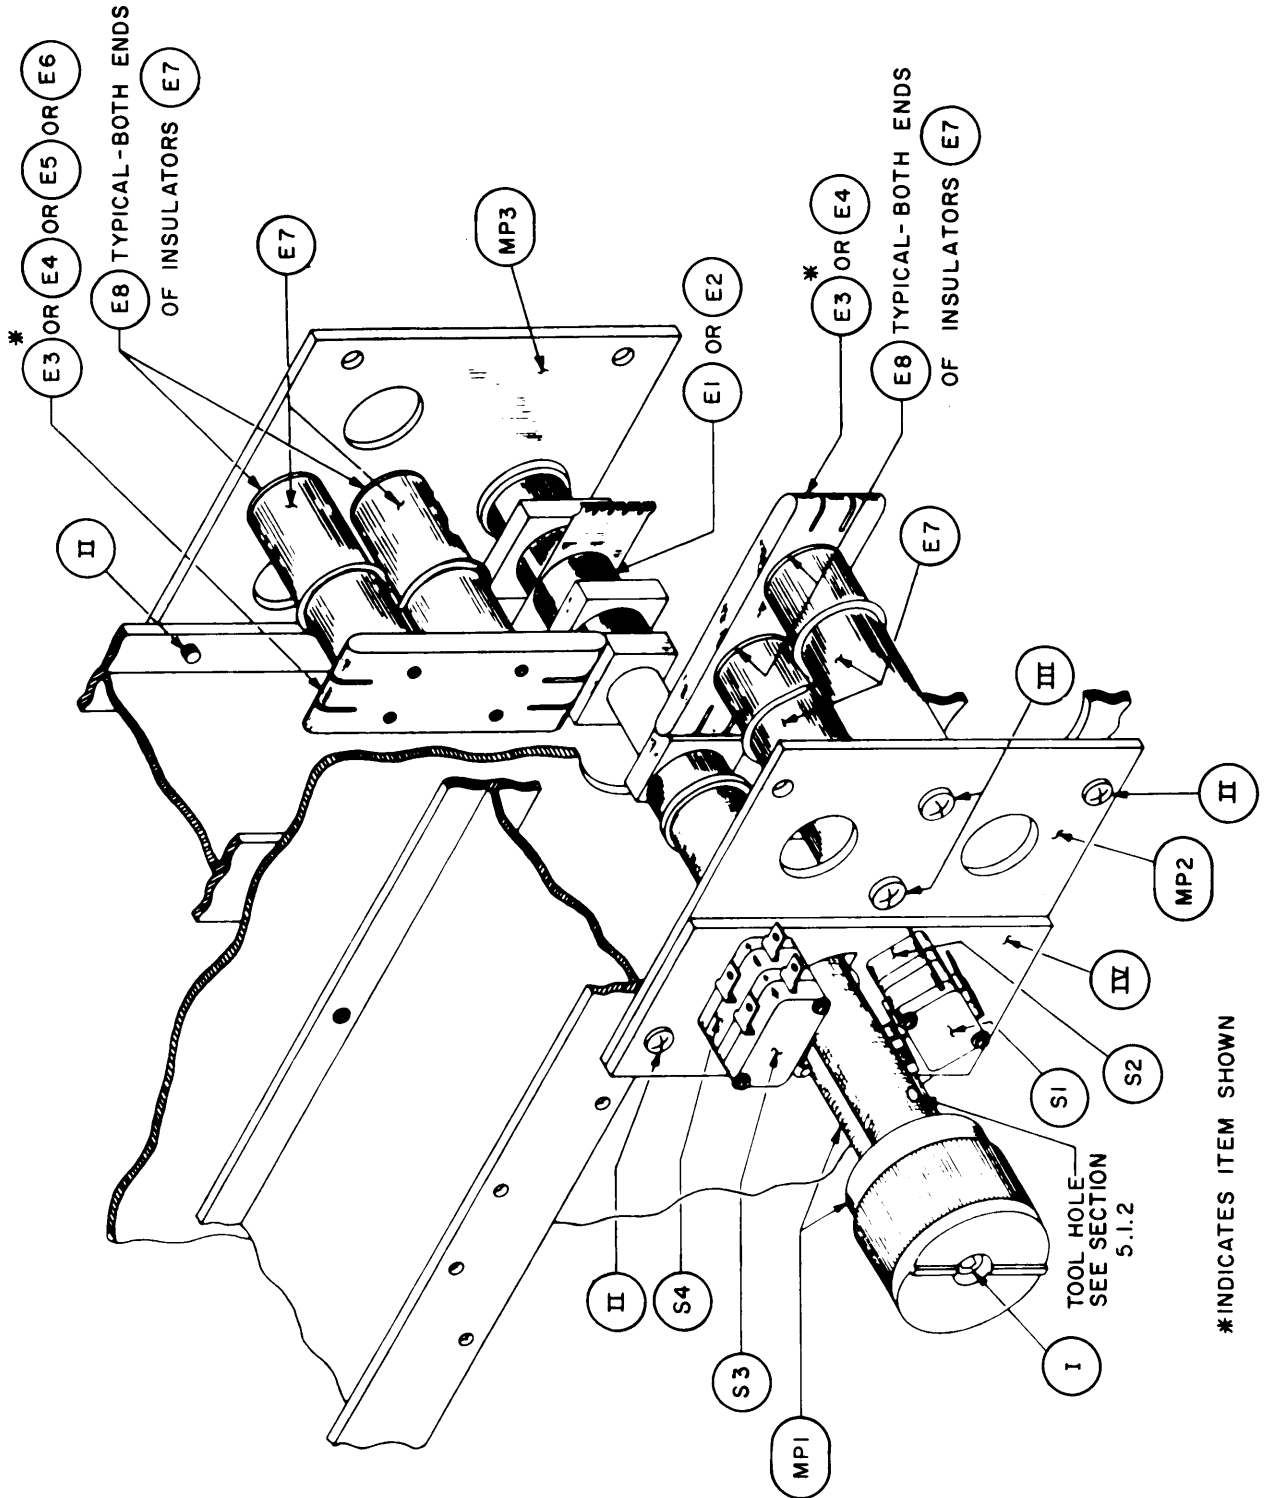

Figure 5-1. Cross-Point Components
5.1.2 To remove a ram, first remove the knob by rotating the knob until one of the holes in the knob's sleeve (See Figure 5-1) aligns with the hole in the ram shaft. Insert a pin, such as a heavy nail or small drill shank, through the aligned holes and at the same time place an Allen wrench in the cap screw in the center of the knob. Apply equal and opposite torque to the pin and to the Allen wrench to loosen the cap screw. Remove the cap screw and withdraw the knob and sleeve assembly. Unlock and place in their middle or disengaged position, the four rams immediately adjacent to the ram being removed. If the ram is not securely held with a pin while loosening or tightening the cap screw, torque may be applied to the ram components with resultant damage to the ram assembly.
5.1.5 To replace a strip line contact, remove the mounting screws, III, from the insulators, E7. The insulators may then be unscrewed from the strip line contact, E3, E4, E5, or E6. Install the new strip line contact on the mounting plate with the hardware as shown in Figure 5-1 making sure the Teflon Insulator Washers, E8, are present at each end of the stand-off insulators.
6.1.3 The peculiar components may be readily identified by reference to the Pictorial Parts List, Section 6.2, and the Crosspoint Components Drawing, Figure 5-1. Repair parts are listed in the List of Materials, Section 6.3. Those parts consisting of common hardware are identified by Roman Numeral (I, II, etc.) reference designations and are shown on the Reference List of Materials, Section 6.4.